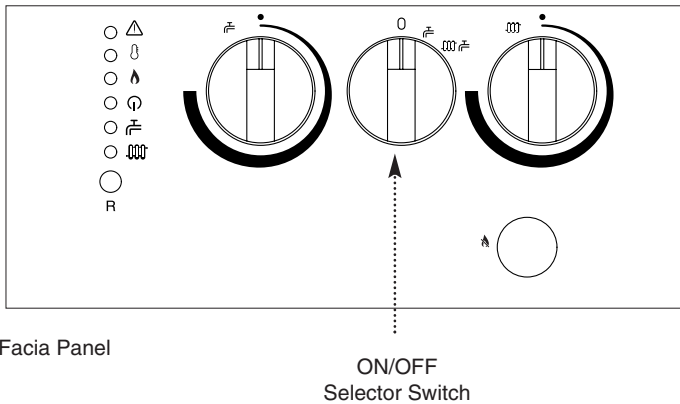

Fig. 1
1. Turn off the electrical supply and turn the selector switch on the facia panel to the Off position (Fig.1).